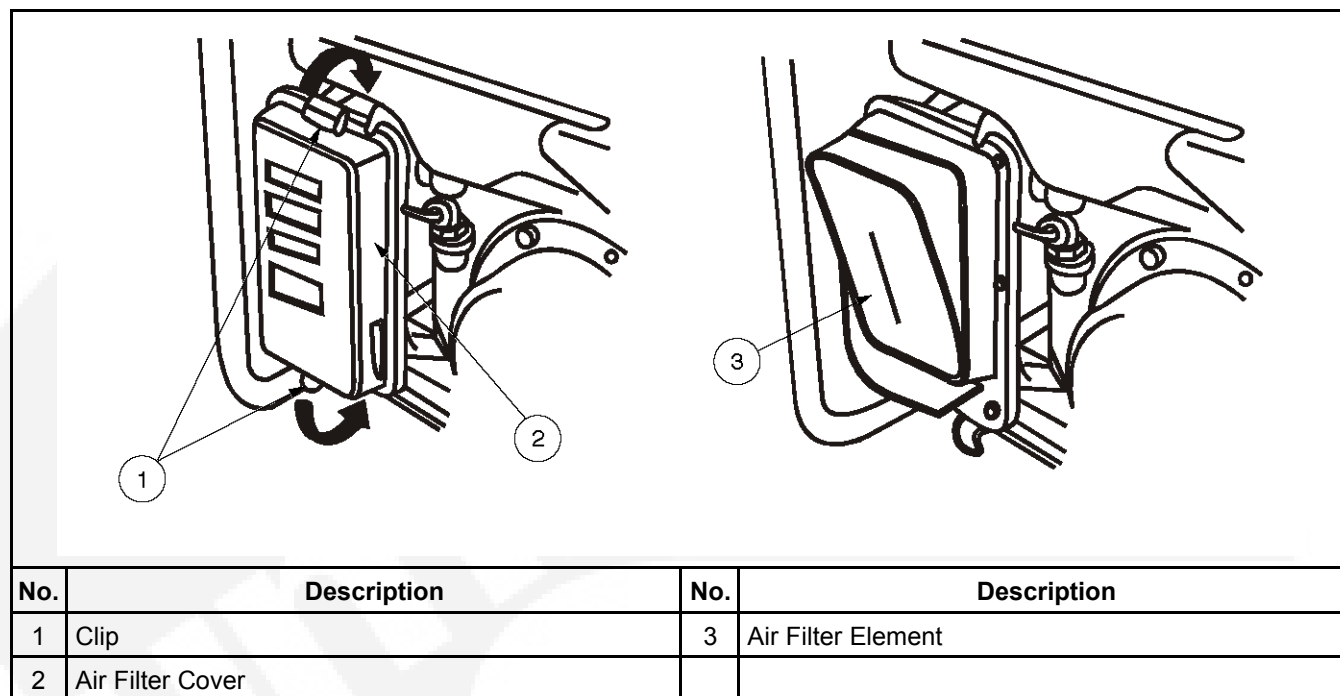

FIGURE 9. AIR FILTER
1. Remove the filter cover (Item 2 in Figure 9) by unsnapping the two spring clips (Item 1).